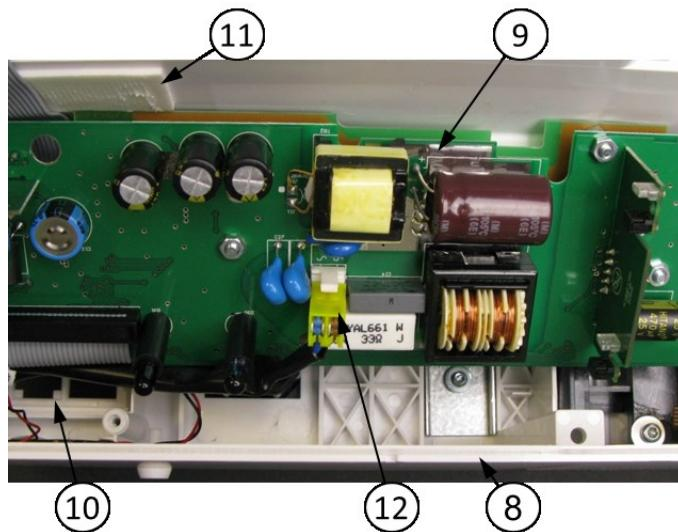

Fig. 60 Power supply board set connection with the Back case
5. Pull out the **Power supply boards set (9)** and unplug the **AC cord (12)** (Fig. 60).
1. Connect the **AC cord plug (12)** and place the **Power supply boards set (9)** inside of the **Back case (8)** (Fig. 60).